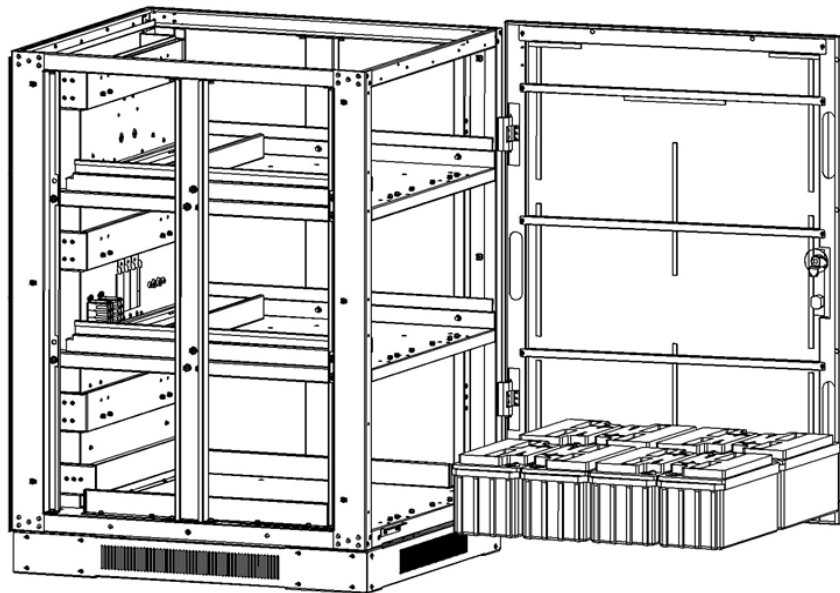
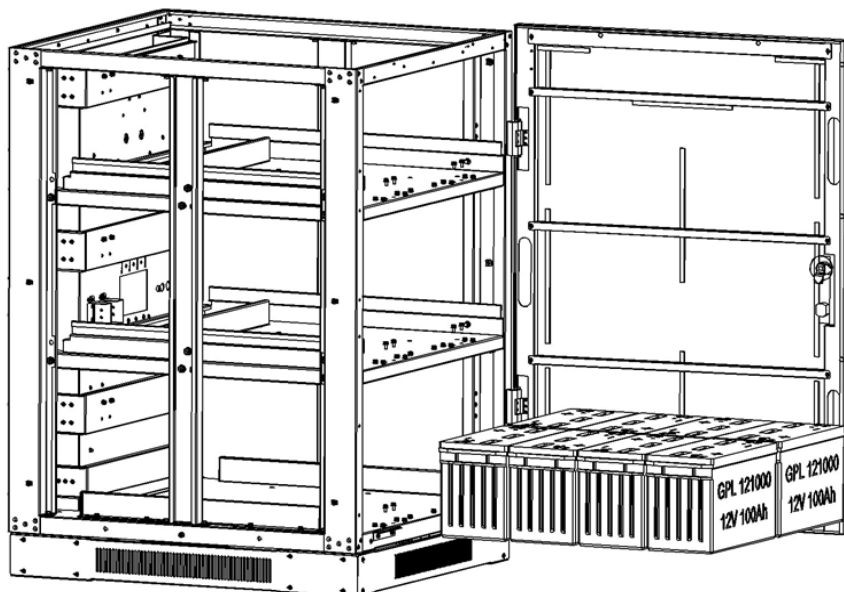

Figure 5-9: Model BP240V65-NIB
Figure 5-10: Model BP240V100-NIB
4. Install 8 battery packs in layer 1 (Figure 5-9: Model BP240V65-NIB or Figure 5-10: Model BP240V100-NIB).